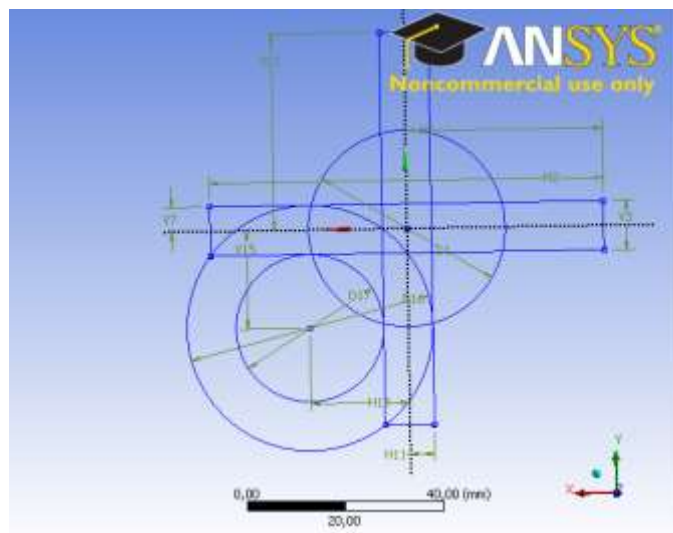

Fig. 2. The circles and rectangles used for preparation of valve.
2. Sketch the circles and rectangles as shown in fig 2.
3. Use the sketches as shown in fig 2 to make a number of surfaces. Go to **Modeling** mode select all sketches. **Concept/Surfaces from sketches**. Change **Add Material** to **Add frozen** under **Operation**.